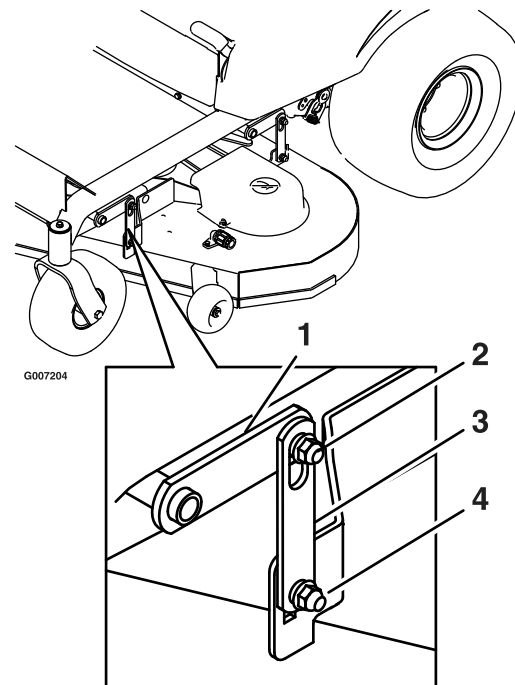

Figure 41
- Loosen the leveling adjust locking nuts (item 4) on all four corners so that the deck is sitting securely on all four blocks. Make sure that the deck hangers are all the way down (at the top of the slot) and the deck lift foot lever is pushed back against the stop, then tighten the four leveling adjust locking nuts (Figure 41).